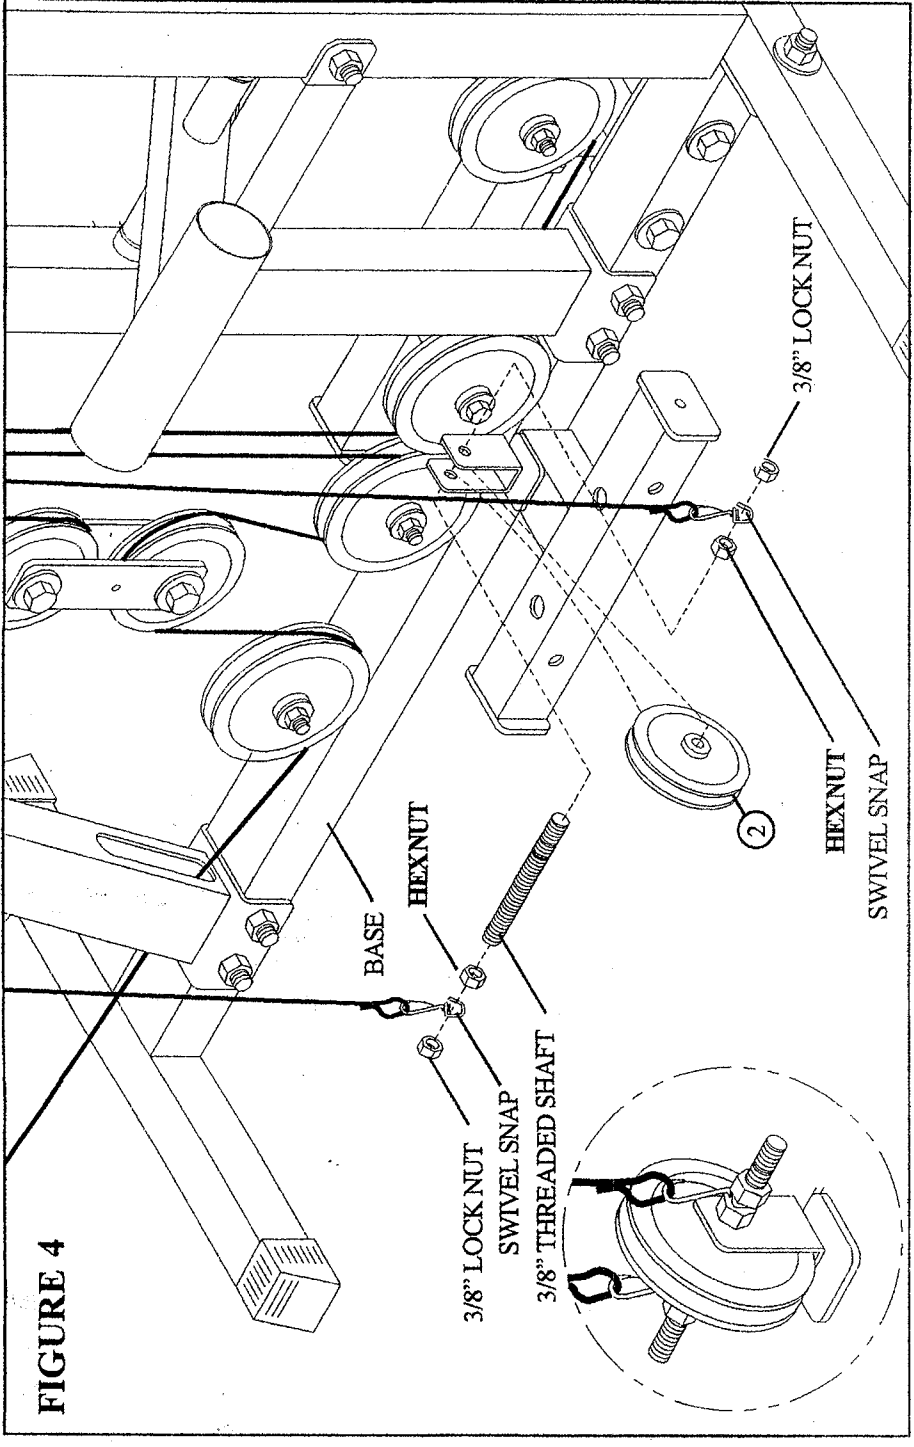

FIGURE 4
- Assemble the two previously removed 3/8" HEX NUTS, two previously removed SWIVEL SNAPS, one 3-1/2" PULLEY (2), and two previously removed 3/8" LOCK NUTS to the previously removed 3/8" THREADED SHAFT as shown in FIGURE 4.